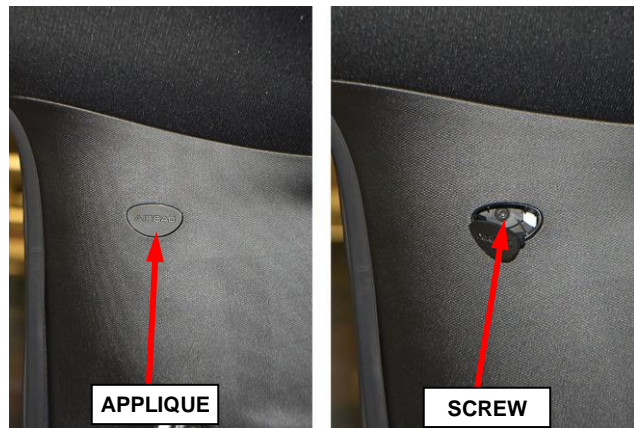

Figure 43 – C-Pillar Upper Trim Panel
- Using a trim stick or equivalent, release the C-pillar airbag applique then remove the screw that secures the upper trim panel (Figure 43).
45. Install and tighten the screw that secures the C-pillar upper trim panel. Then install the airbag applique (Figure 43).